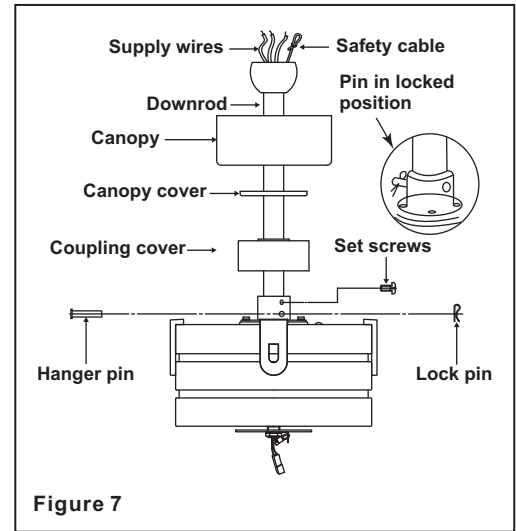

Figure 7
Step 5. Remove the hanger pin, lock pin and set screws from the top of the motor assembly. (Fig. 7)
Step 6. Route the safety cable and wires exiting from the top of the fan motor through the coupling cover, canopy cover and canopy and then through the ball / downrod. (Fig. 7)
Step 7. Align the holes at the bottom of the downrod with the holes in the collar on top of the motor housing (Fig. 7). Carefully insert
the hanger pin through the holes in the collar and downrod. Be careful not to jam the pin against the wiring inside the downrod. Insert the locking pin through the hole near the end of the hanger pin until it snaps into its locked position, as noted in the circle inset of Fig. 7.
Step 8. Tighten two set screws on top of the fan motor firmly. (Fig. 7)